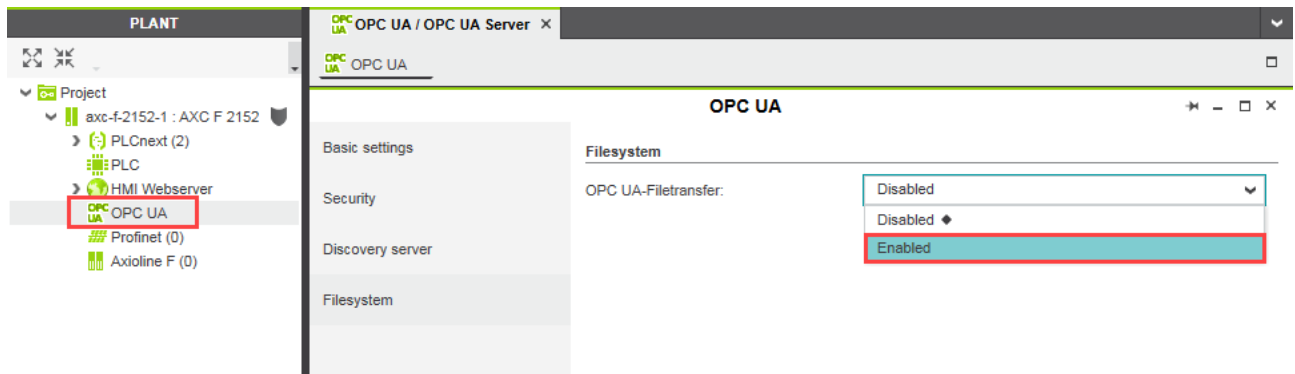

Figure 9-18 Enabling OPC UA file transfer
- 1 FileReaders can only read files via an OPC UA client if OPC UA file transfer is enabled in PLCnext Engineer (see Figure 9-18).
- 2 FileWriters can only write files via an OPC UA client if OPC UA file transfer is enabled in PLCnext Engineer (see Figure 9-18).